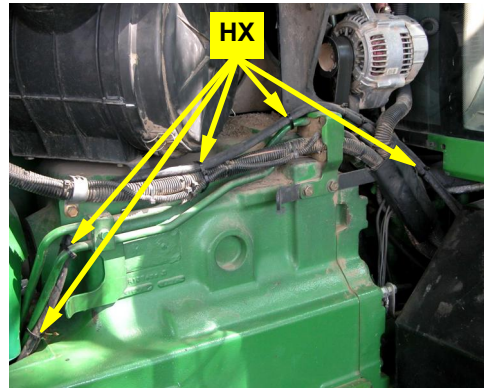

Figure 6e: Steering hoses with tie straps
e. Continue routing the steering hoses on the top side of the tractor following along the existing steel steering lines and under the tractor cab rearward to the hydraulic steering block. Carefully check the hose routing for clearance of moving parts and secure with the provided heavy tie straps **HX** (Figure 6e).